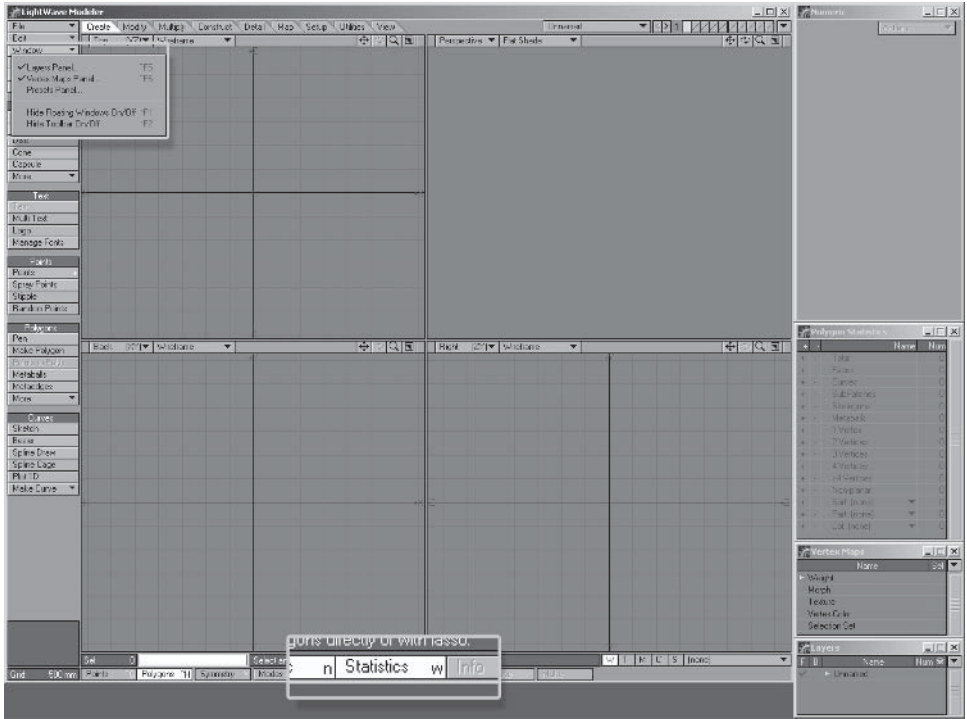

Figure 1.3-5. Modeler interface set up with the Numeric, Statistics, Vertex Maps, and Layers panels.
- 5. Arrange the four windows as shown in Figure 1.3-5.